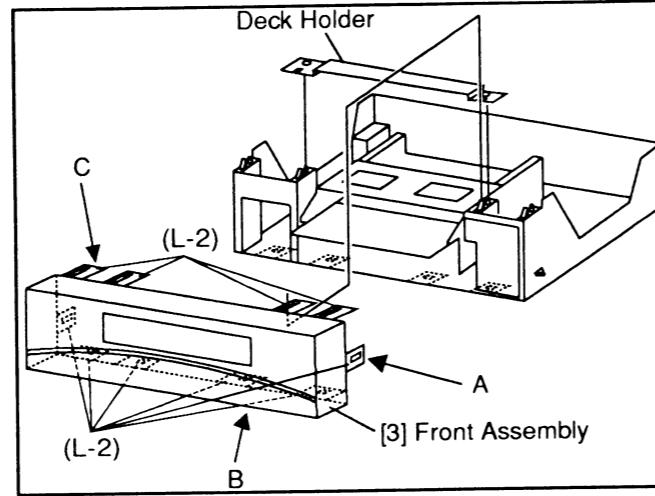

Fig. 3
2. **CAUTION** Locking Tabs (L-2) are fragile. Be careful not to break them. Release 10 Locking Tabs (L-2), then remove the Deck Holder. (Fig. 3) When releasing (L-2), first release the tab (A) on each side of the Front Assembly, then the four tabs (B) at the bottom, and then the four tabs (C) at the top. (Fig. 3, Fig. 4)